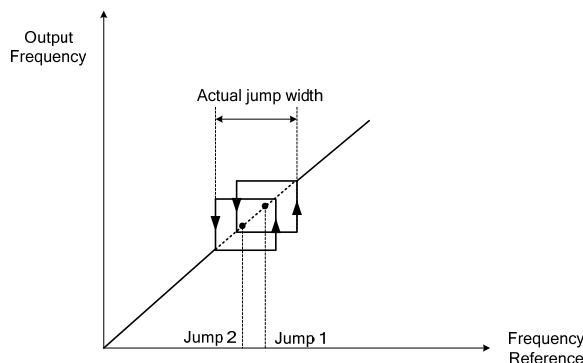

Figure 4.3.87 Jump frequency overlap
- When jump frequency overlap the sum of the overlapped jump frequencies will be used as the jump frequency range. Refer to figure 4.3.87 .